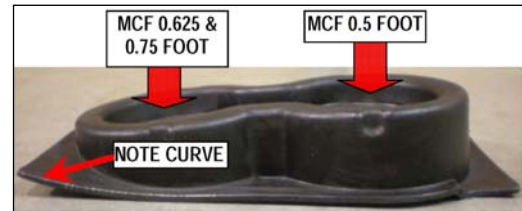

*Figure 3.3*
- b. Fasten the pipe piece to the foot bottom using the supplied stainless steel screws (#14 x 1.5", self-tapping stainless steel hex head screw). Two screws/ foot bottom shown in *Figure 3.3*.